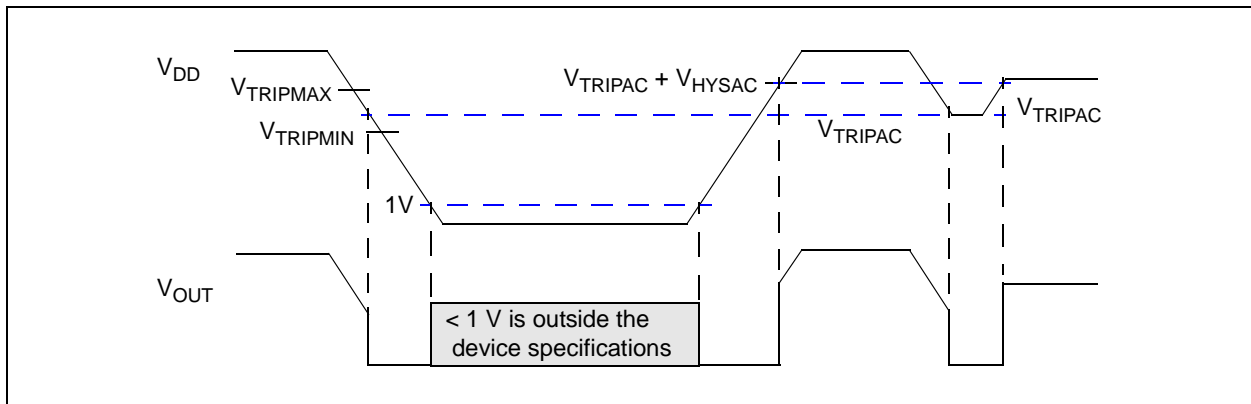

**FIGURE 4-1:** Typical Application Circuit.
**Note:** Unless otherwise indicated, all limits are specified for  $V_{DD} = 1V$  to  $5.5V$ ,  $R_{PU} = 100\text{ k}\Omega$  (only **MCP111**; see **Figure 4-1**),  $T_A = -40^\circ\text{C}$  to  $+125^\circ\text{C}$ .
**Note:** Unless otherwise indicated, all limits are specified for  $V_{DD} = 1V$  to  $5.5V$ ,  $R_{PU} = 100\text{ k}\Omega$  (only **MCP111**); see **Figure 4-1**),  $T_A = -40^\circ\text{C}$  to  $+125^\circ\text{C}$ .
**Note:** Unless otherwise indicated, all limits are specified for  $V_{DD} = 1V$  to  $5.5V$ ,  $R_{PU} = 100\text{ k}\Omega$  (only MCP111; see Figure 4-1),  $T_A = -40^\circ\text{C}$  to  $+125^\circ\text{C}$ .
**Note:** Unless otherwise indicated, all limits are specified for  $V_{DD} = 1V$  to  $5.5V$ ,  $R_{PU} = 100\text{ k}\Omega$  (only MCP111; see **Figure 4-1**),  $T_A = -40^\circ\text{C}$  to  $+125^\circ\text{C}$ .
For many of today's microcontroller applications, care must be taken to prevent low-power conditions that can cause many different system-power problems. The most common causes are brown-out conditions, where the system supply drops below the operating level momentarily. The second most common cause is when a slowly decaying power supply causes the microcontroller to begin executing instructions without sufficient voltage to sustain SRAM, thus producing indeterminate results. Figure 4-1 shows a typical application circuit.
A 0.1  $\mu\text{F}$  bypass capacitor, mounted as close as possible to the  $V_{DD}$  pin, provides additional transient immunity (refer to Figure 4-1).